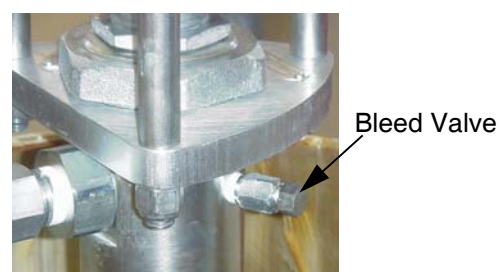

FIG. 19
5. For both component A and component B, open the respective pump bleed valves, having a waste container ready to catch the drainage, FIG. 19.